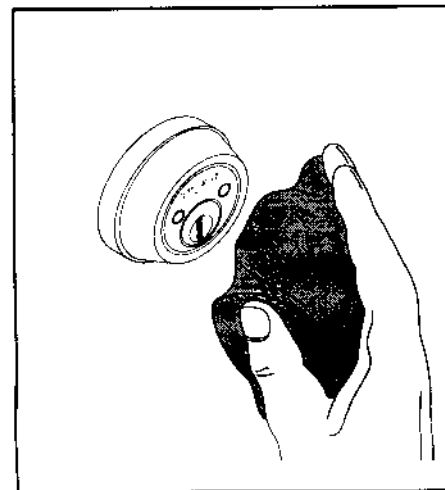

figure 3
- Remove black cloth & check for illumination at the top of the cylinder ring. Reference figure 3.